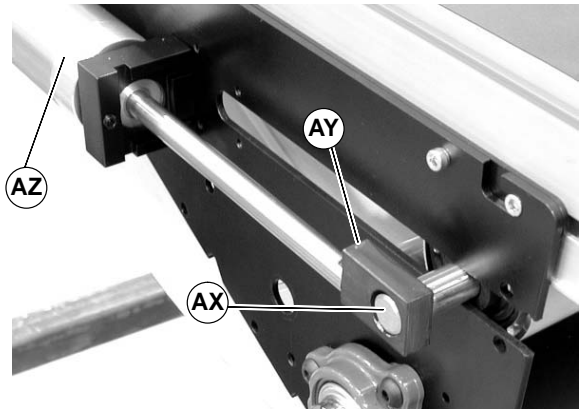

Figure 26
- Push shaft (AX of Figure 26) through block (AY) on opposite side of center drive, slide block toward air cylinder (AZ).